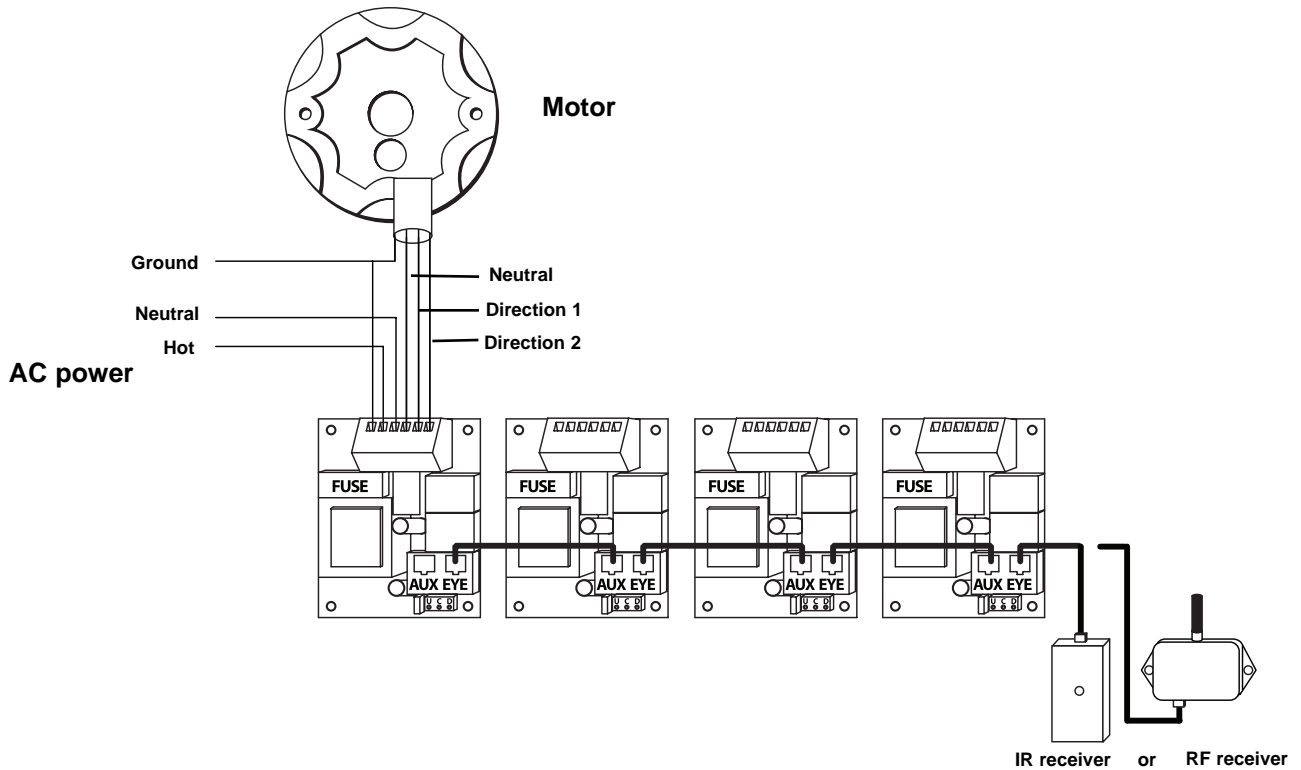

Figure 14. Connecting multiple shades to an IR control
Figure 14 illustrates the connection of multiple shades to an infrared (IR) or radio frequency (RF) receiver for remote control operation. Note that the connections are made from the Eye port to the Aux port.